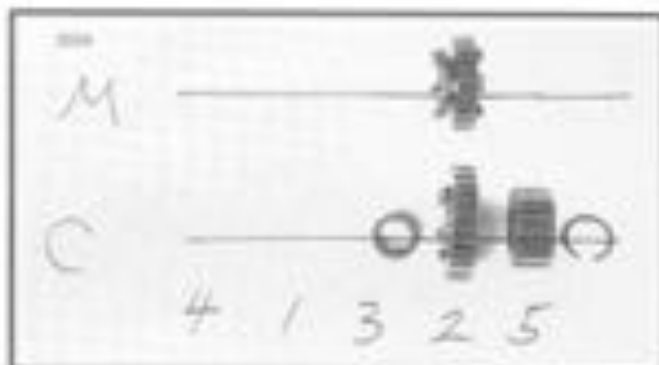

Figure 6-28.
3. See Figures 6-28. As each component is removed, place it on a clean surface in the exact order of removal.